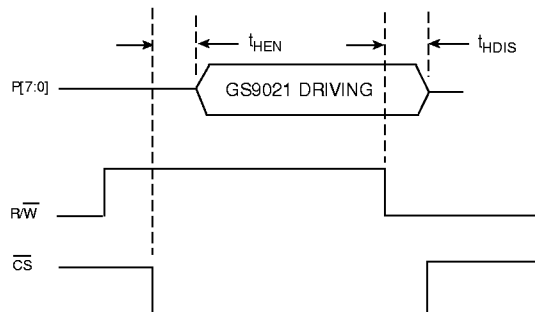

Fig. 8b HOSTIF Parallel Port Output Enable & Disable Times
- C) The GS9021 drives the P[7:0] when the R/\overline{W} pin is HIGH and the \overline{CS} pin is LOW. At all other times, the P[7:0] port is in a high impedance state. The host interface enable and disable times are shown in Figure 8b and are specified in the AC timing information. In this figure, the rising/falling edges of R/\overline{W} and \overline{CS} are not aligned to illustrate that the state of the P[7:0] I/Os is only a combinatorial function of the R/\overline{W} and \overline{CS} pins.